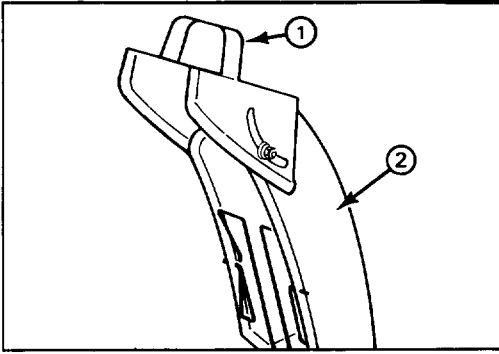

Figure 12
**Deflector Handle** (Fig. 12) — Deflector Handle on top of discharge chute is used to control the height of the snow stream.